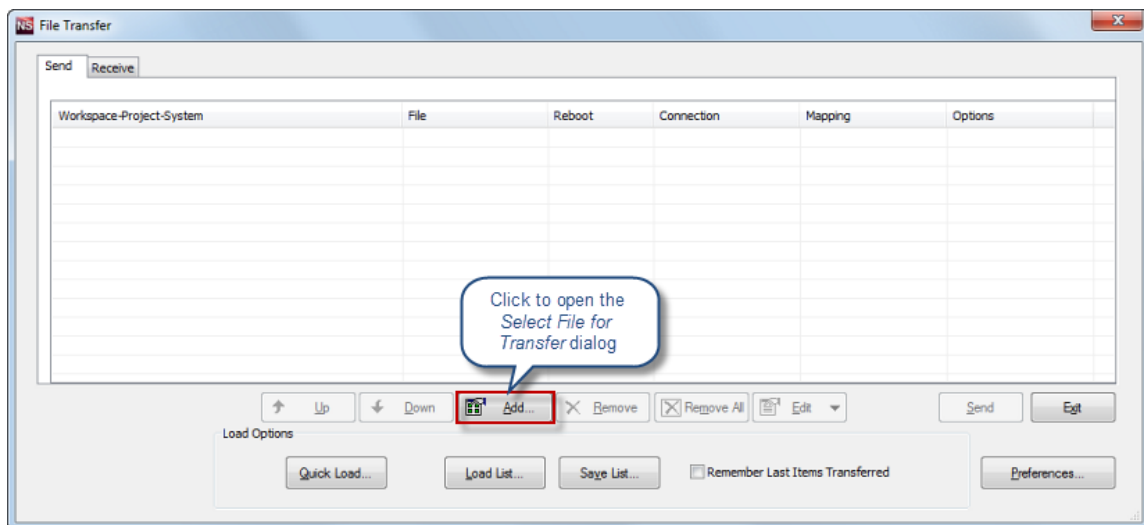

FIG. 136 NetLinx Studio 4 - File Transfer dialog
2. Select **Tools > File Transfer** to open the *File Transfer* dialog (FIG. 136):